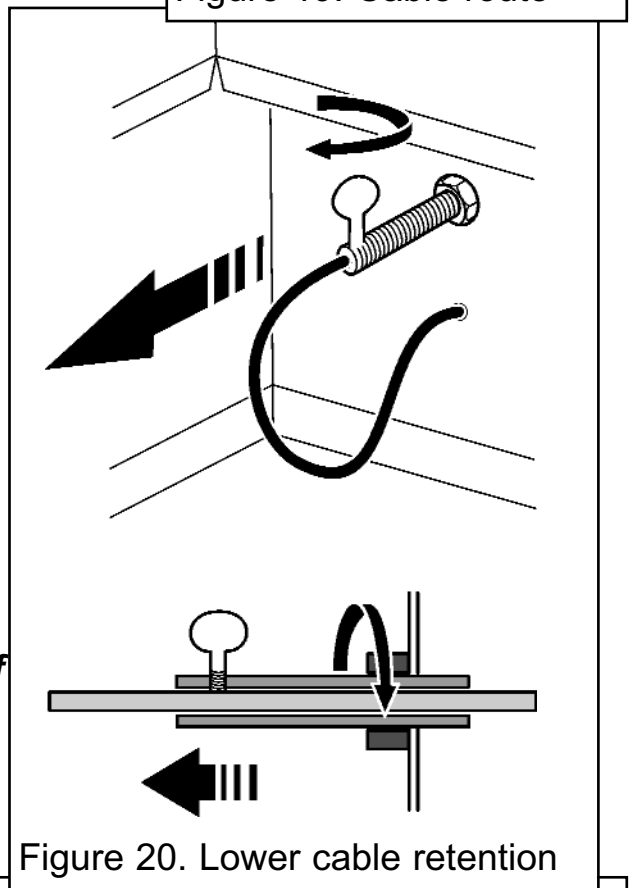

Figure 20. Lower cable retention
**12.** Pull each cable taut. Push the cable retainers hard up against the back panel. The end of the cable adjuster will pass into the hole. Tighten the screws in the retainers so that they clamp the cables in position. Apply tension to the cables by turning the hexagonal adjusters by hand (See figure 20).
**15.** Feed the free length of the cables through the small holes in the back of the convection box immediately below the cable adjusters so that they are available to allow easy removal and refitting of the appliance during subsequent service calls. **Do not cut off the free lengths of cable** (See figure 20).